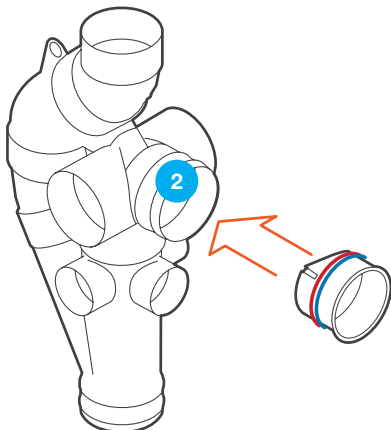

Figure 6
- Using a holesaw (105mm holesaw is recommended for 100DN connections or a 65mm holesaw for 65DN connections) gently drill out the correct inlet using the moulded guide points to centre the holesaw (see Fig. 6).